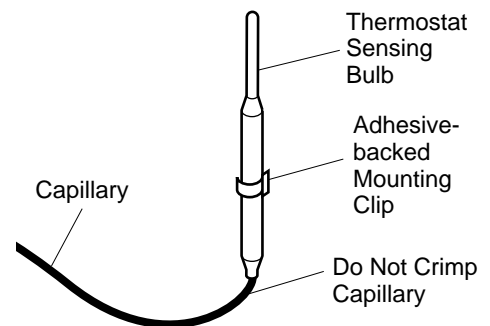

Figure 41 - Positioning the Thermostat Sensing Bulb in the Vertical Position with the Capillary at the Bottom
5. The mounting clip must be a minimum of 3" from bottom of fireplace to prevent crimping of capillary. Once you have decided on a location, clean the area thoroughly. Remove the paper backing from the adhesive on back of mounting clip. Press the clip into the new location so that the thermostat sensing bulb will be positioned vertically with the capillary at the bottom (see Figure 41). Slide the thermostat sensing bulb into the clip.